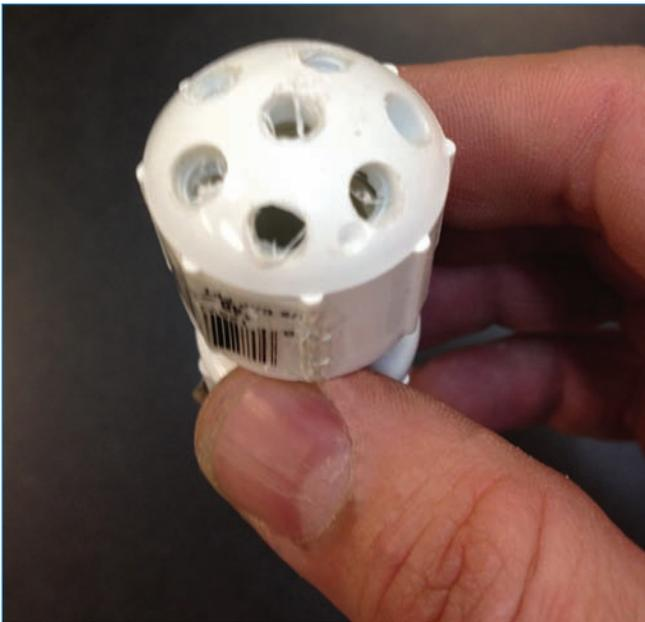

FIGURE 7.14 Drill holes in an end cap to make a sprinkler head!
9. Now create the nozzle. I took a standard threaded PVC end cap and drilled a bunch of holes in it (see Figure 7.14). The size of the holes is dictated by how much water you want to come out!